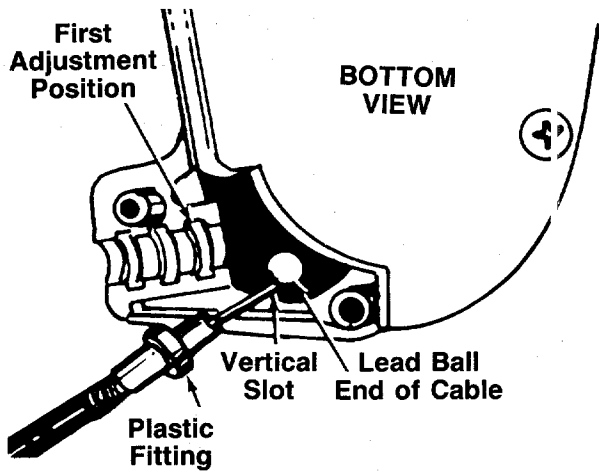

FIGURE 6.
← figure 6.
3. Place the plastic fitting on the control cable into the first adjustment position in the clutch control housing. See figure 6.